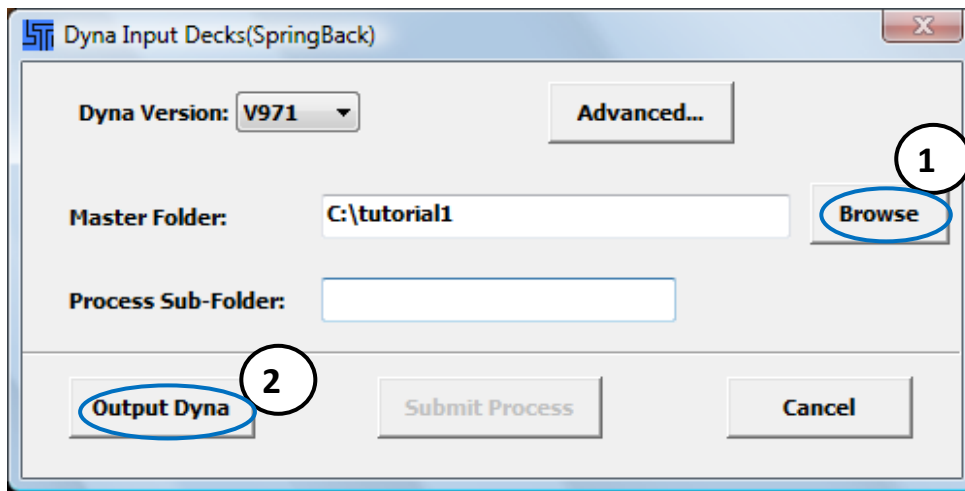

Figure 12
6. Output LS-Dyna input decks (Figures 12)